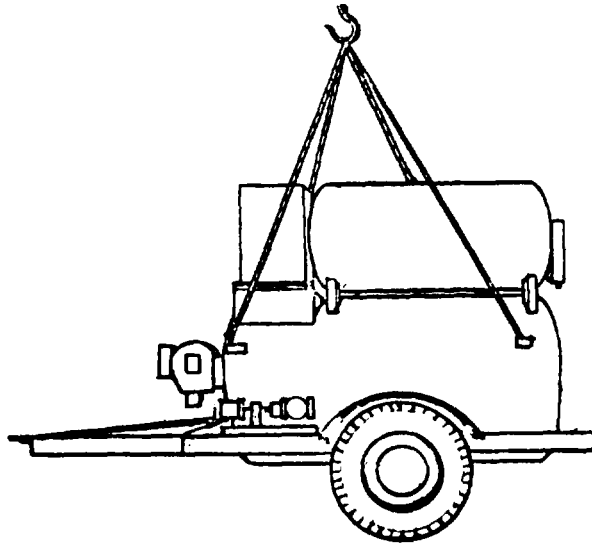

Figure 6. TRAILER UNLOADING BY CRANE
- c. Lifting Hot Oil Heater. Refer to Figure 6 and remove the hot oil heater from the flatcar.